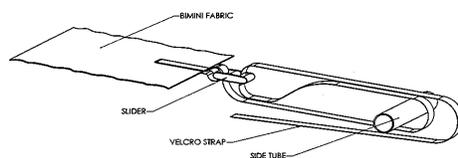

Fig 13
- 5) Using the velcro straps, attach the sides of the fabric to the side tubes of the front "bent" assembly and the side tubes of the rear tube assembly. (See Fig 13 for threading procedure.)